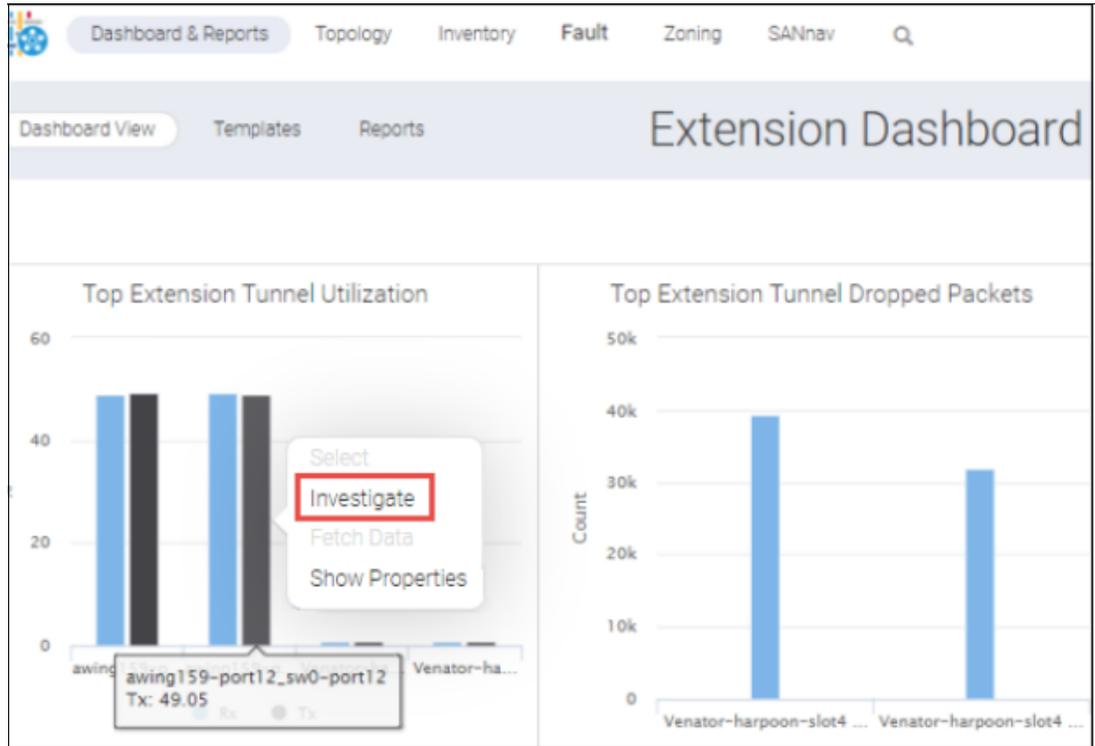

Figure 5-75 Extension dashboard: Investigate
3. If you want to examine tunnel or circuit utilization, click a bar in one of the utilization widgets, and then select **Investigate** from the list, as shown in Figure 5-75.